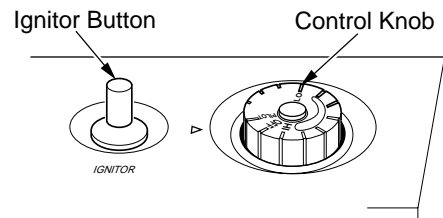

Figure 23 - Control Knob In The OFF Position
4. Wait five (5) minutes to clear out any gas. Then smell for gas, including near the floor. If you smell gas, **STOP!** Follow "B" in the safety information above. If you don't smell gas, go to the next step.
5. Turn control knob counterclockwise  to the PILOT position. Press in control knob for five (5) seconds (see Figure 23).